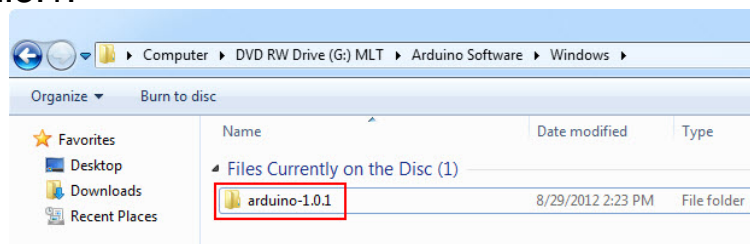

Figure2.3.1
2.3.2. Copy the Arduino Software from a free CD is choose folder “Arduino Software\Windows\arduino-1.0.1” into drive “C:\Program Files” as figure2.3.1.